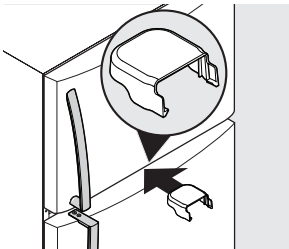

Figure 8
12. Lower the freezer door over the center hinge pin and close door. Place the lower hinge cover between the freezer door and refrigerator door to keep it level while attaching the top hinge (see Figure 8).